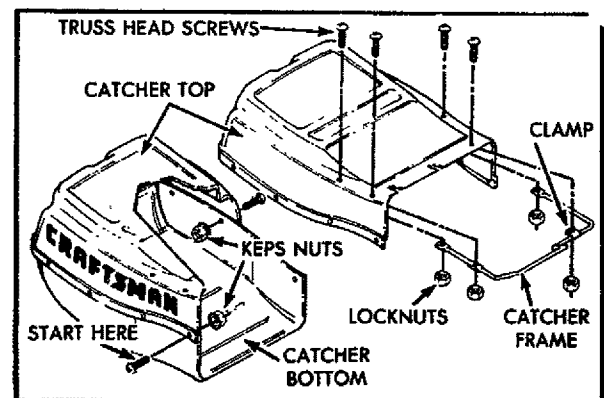

FIG. 9
1. Position clamp onto catcher frame as shown in Fig. 9 and close ends of clamp.
2. Put grass catcher frame with clamp installed into catcher top as shown in Fig. 9.
3. Put one (1) #10-24 x 5/8 truss head screw into hole in catcher top and clamp and #10-24 locknuts. DO NOT TIGHTEN (See Fig. 9).
4. Put three (3) #10-24 x 5/8 truss head screws into the catcher frame using #10-24 locknuts. Use a flat blade screwdriver to drive screws while holding the locknuts with adjustable or 3/8" wrench (See Fig. 9).
6. Position top half of catcher on the bottom half (See Fig. 9).
8. Install the eight (8) 1/4-20 x 5/8" truss head screws, starting at the right front of catcher as shown in Fig. 9.